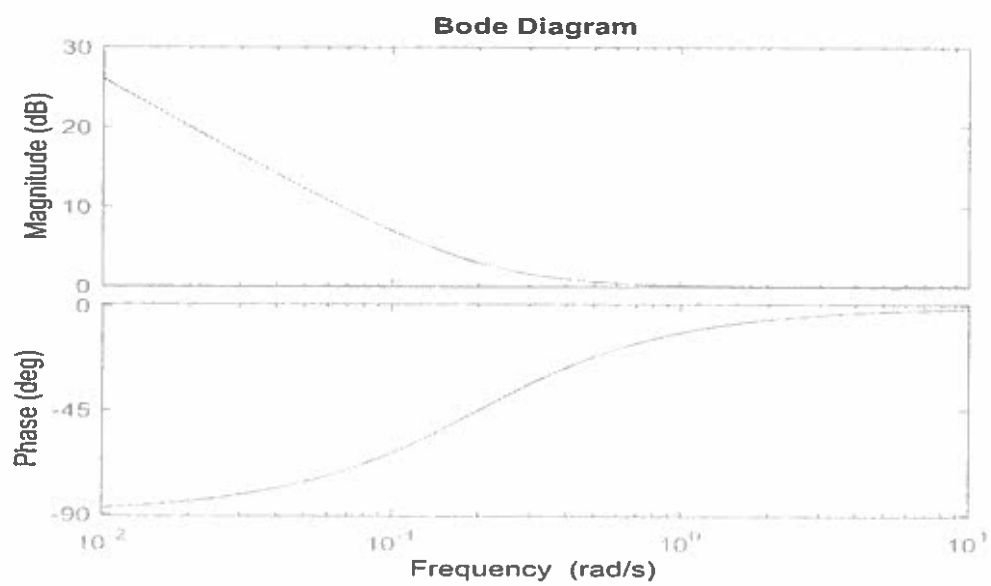

Figure 2.3
- Let $K(s)$ have the frequency response shown in Figure 2.3 overleaf. Describe $K(s)$ briefly and indicate its effects on the performance and stability of the feedback loop. [5]